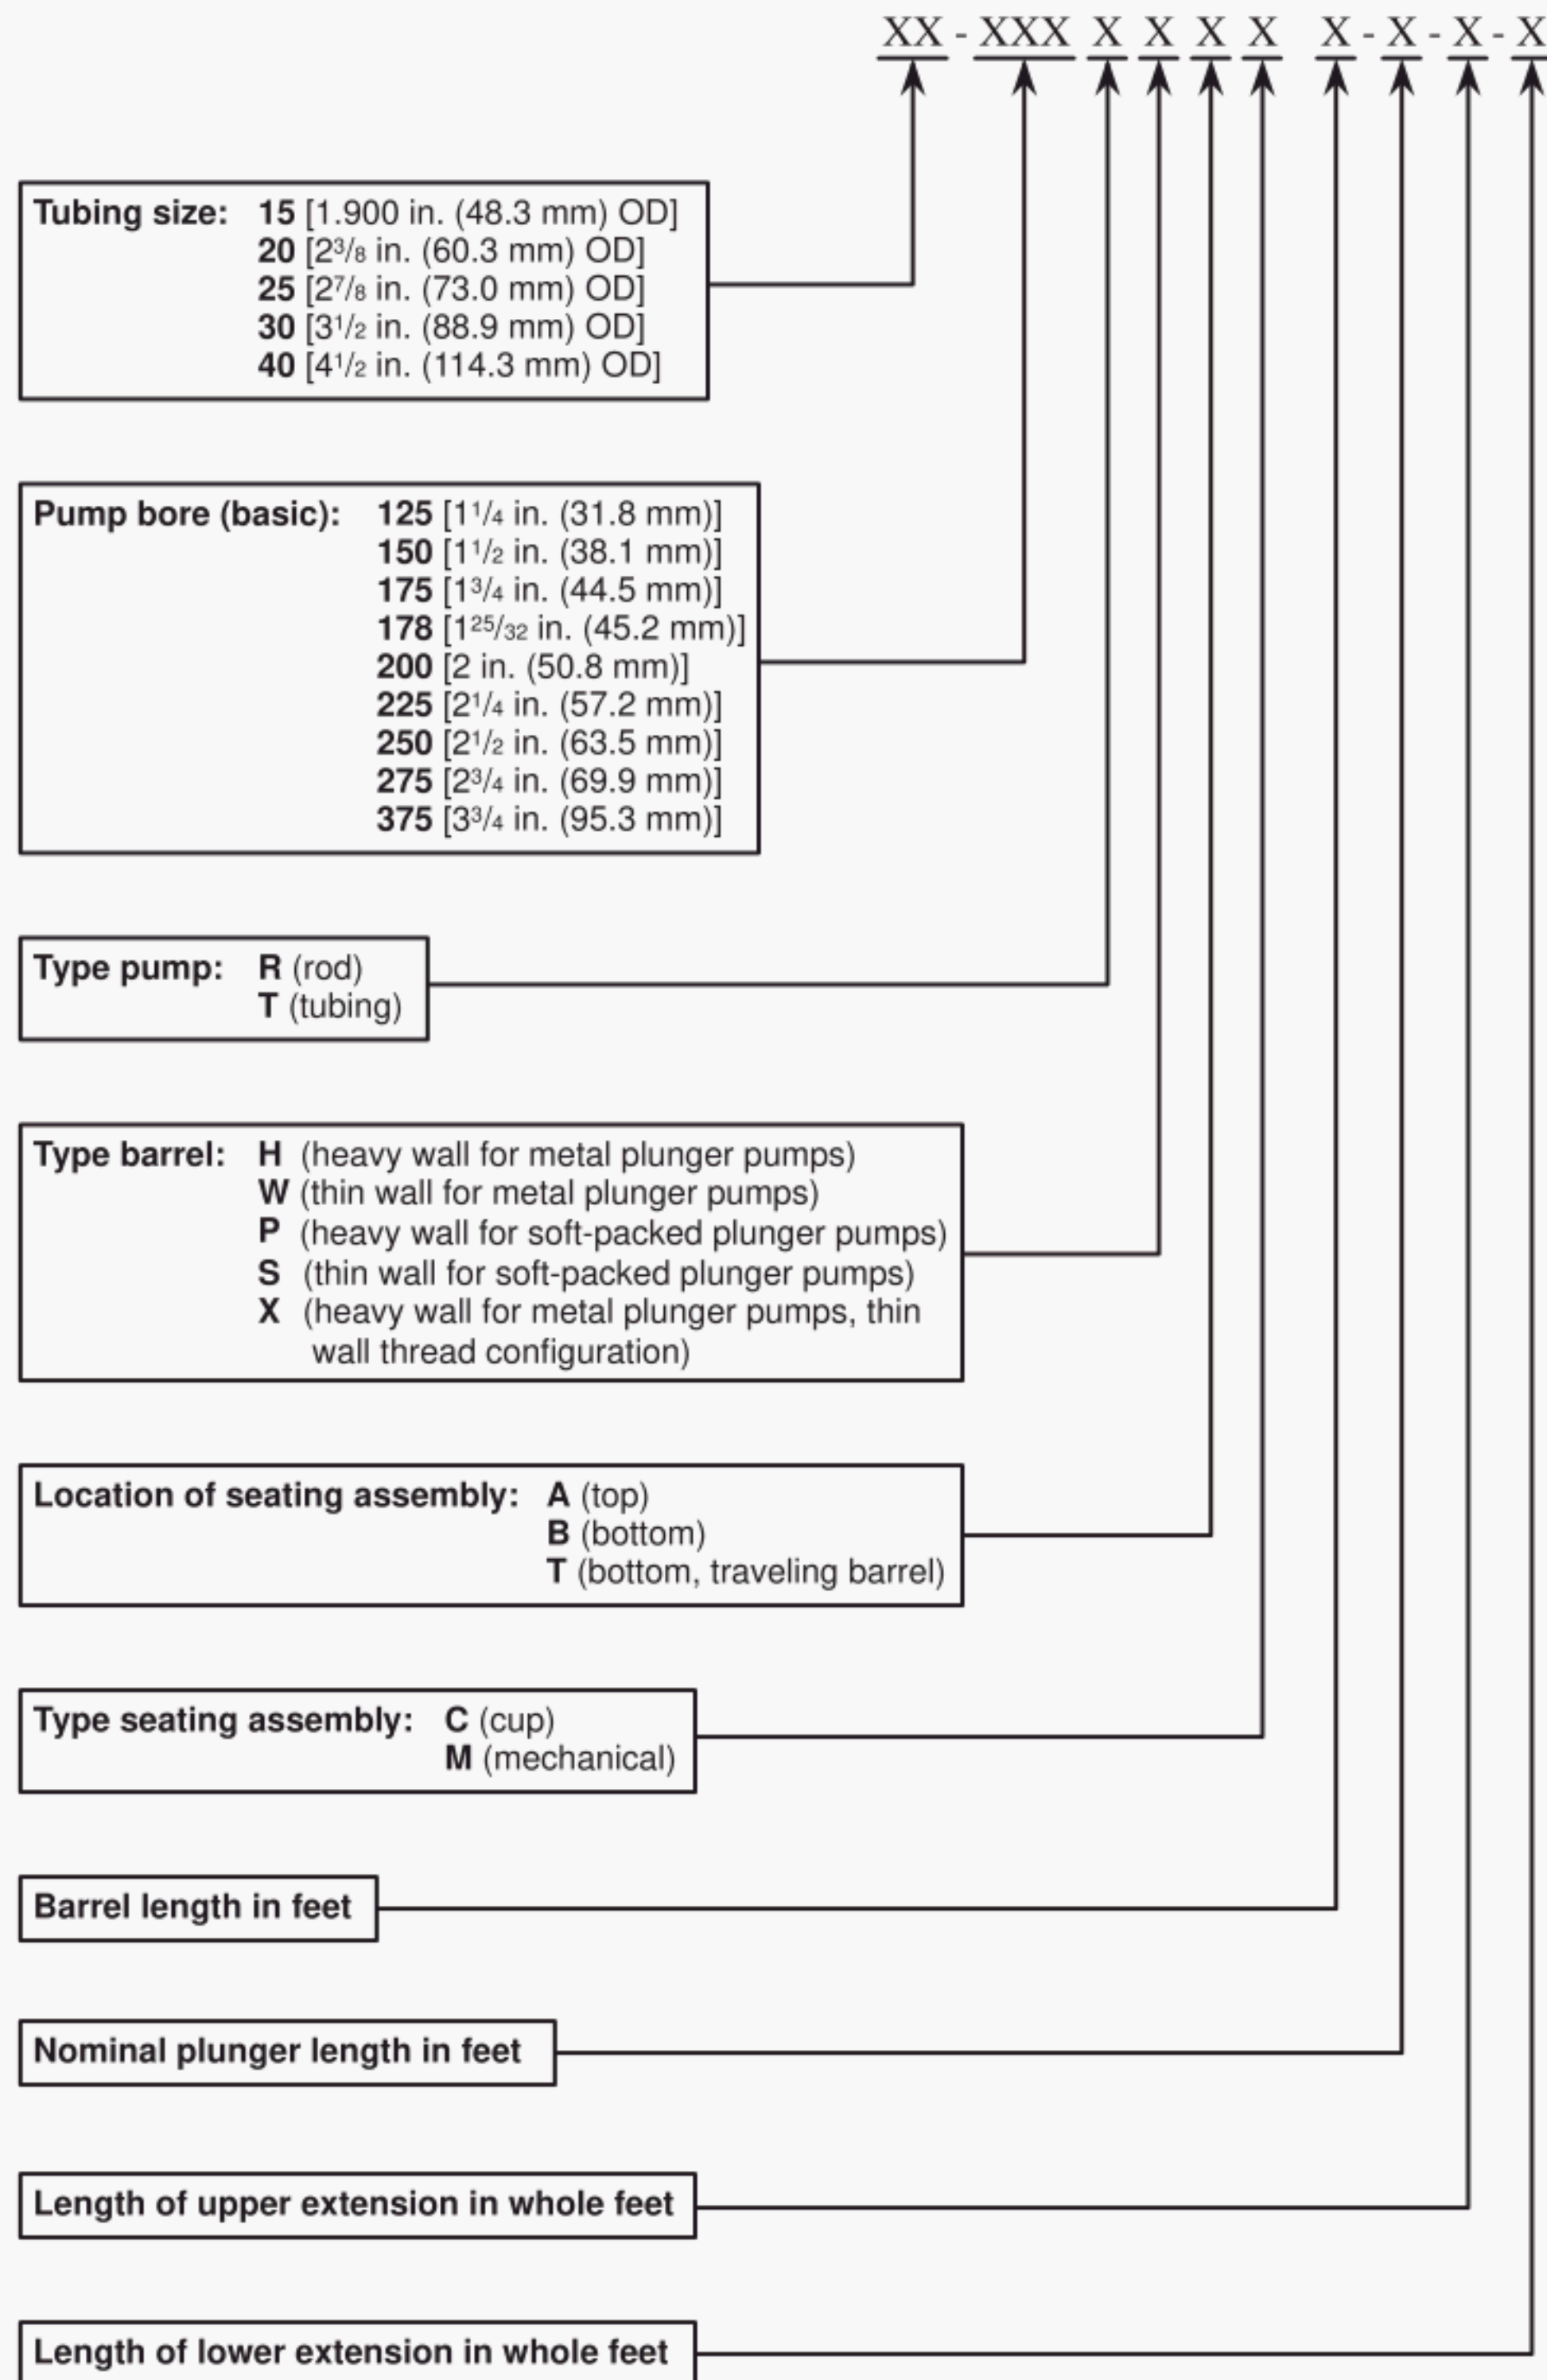

Figure 1—Pump Designations
**3.2** Complete pump designations, as shown in Figure 1, include: